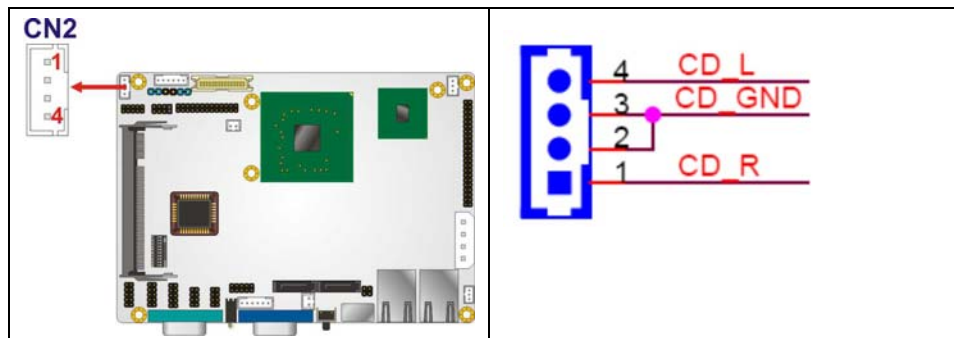

Figure 4-7: Audio CD In Connector Pinouts (4-pin)
- CN Location:** See Figure 4-7